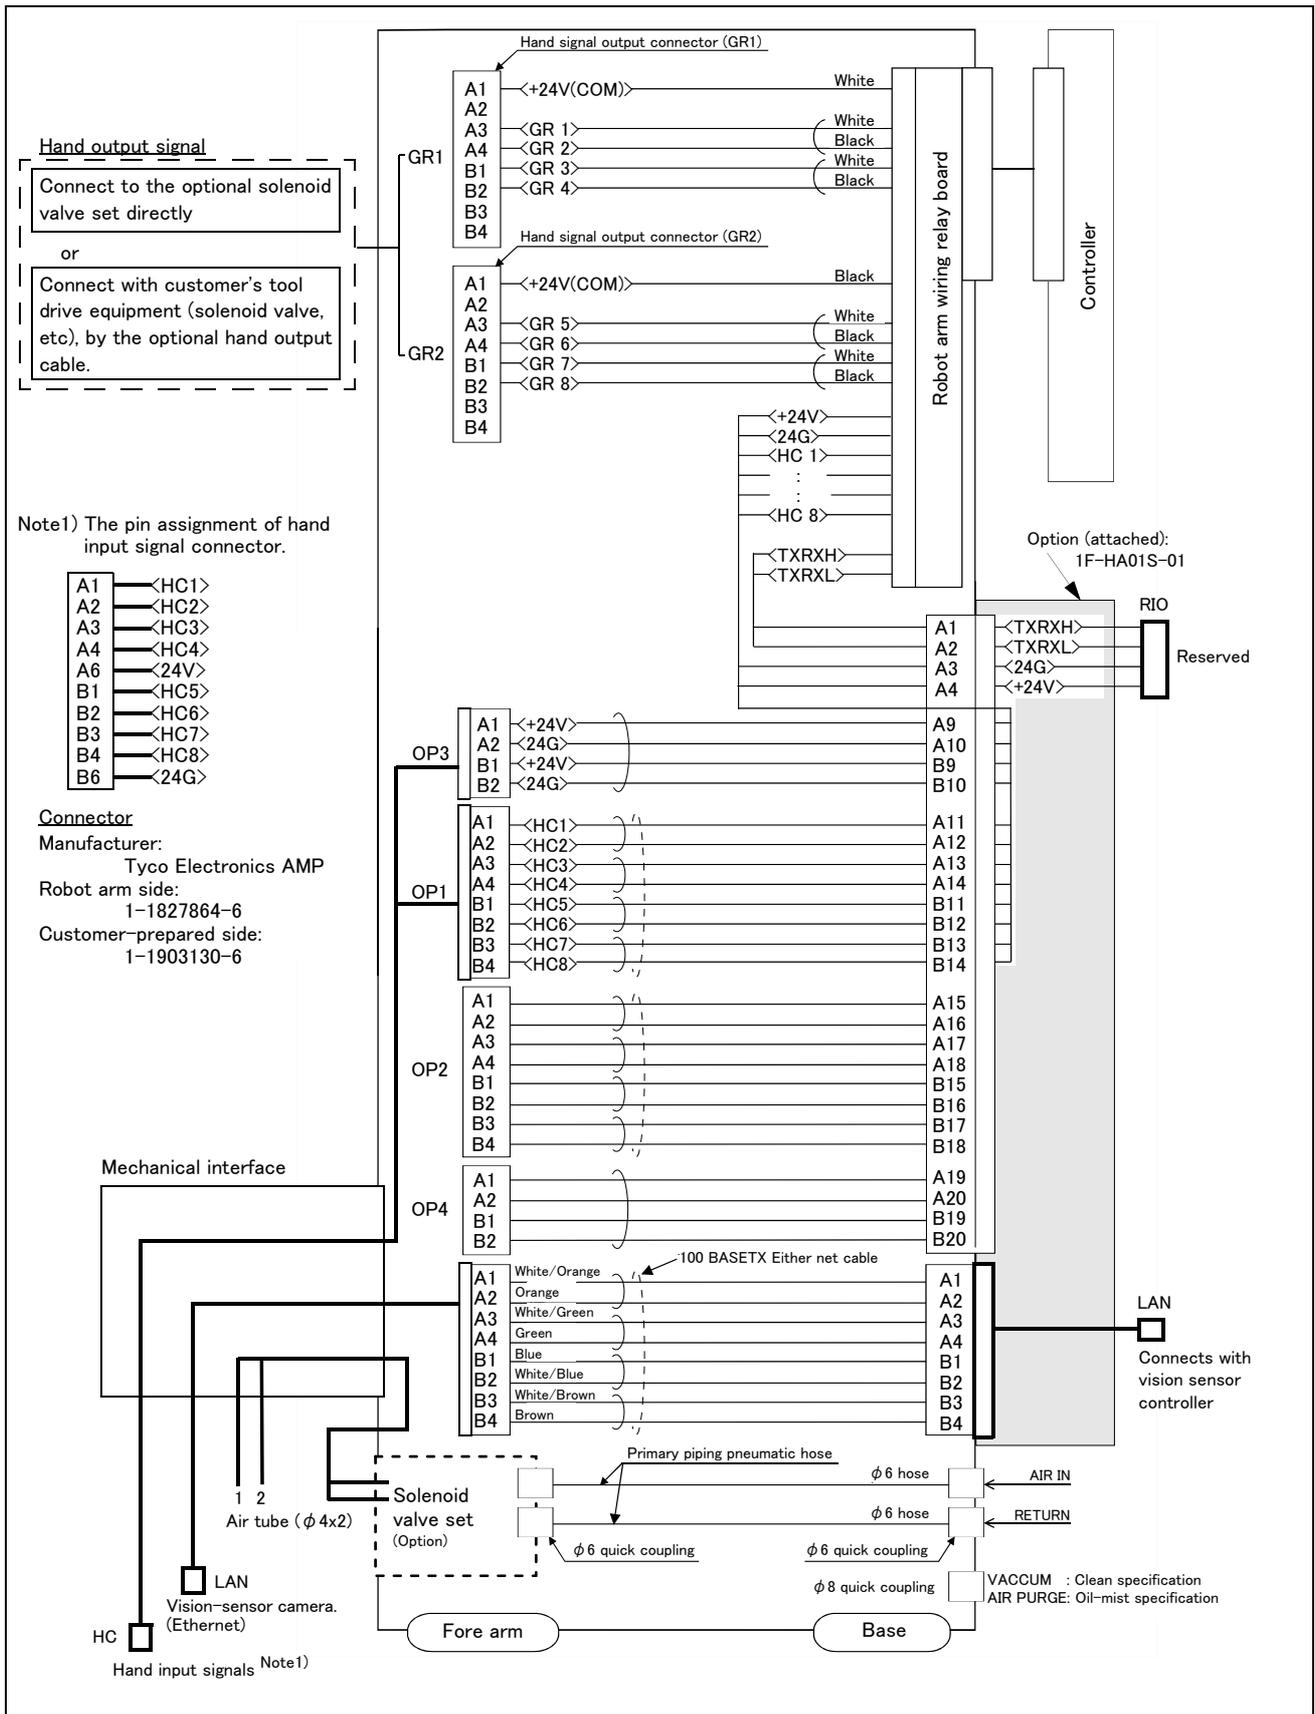

Fig.2-31 : Wiring and piping system diagram for hand and example the solenoid valve installation: SH05
- \*3) Refer to Fig. 2-31 for pin assignment of the hand input cable (HC).